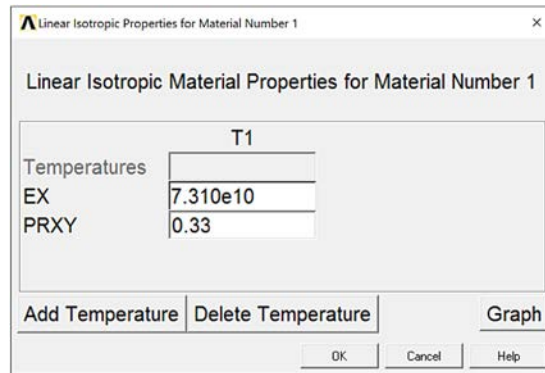

Figure 2-1-9 Specifying Material Properties.
- Click in the EX box and type 7.310e10 (Figure 2-1-9)